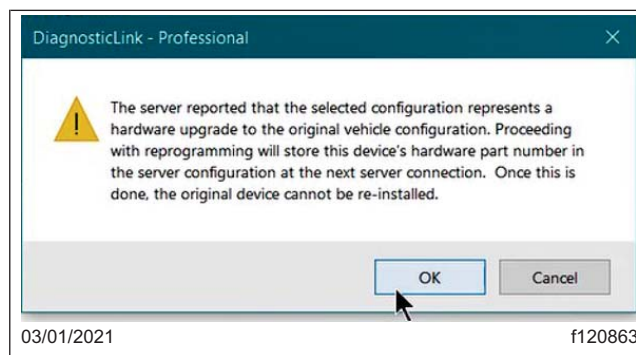

Fig. 10, Device (ECU) a Different Part Number Pop-Up
12. If the ECU currently installed has a different part number than what is stored on the server, the pop-up note shown in **Fig. 10** may appear. If this happens, select OK and continue to the next step.